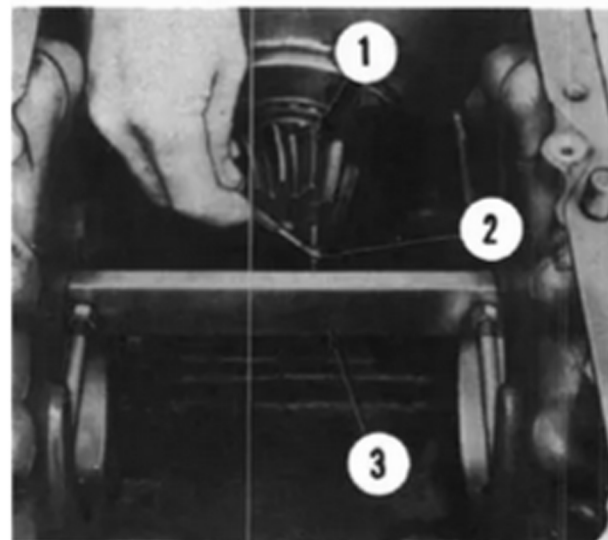

Fig. 98—Use IH Tool No. FES 143-2 and telescoping gage when checking bevel pinion shaft setting.
Using Fig. 91 or 97 as a guide, install countershaft and gears. On Models 684, 784 and 884, install reverse idler gear, thrust washers, bearings and shaft. Then, on all models, with bevel pinion shaft bearings installed adjust pinion position as follows: Install pinion shaft and bearing assembly without shims, brake drum or gears and tighten retaining bolts securely. Note the number etched on the pinion end of shaft. Install pinion gage bar tool IH No. FES 143-2 (3-Fig. 98). Using a telescoping gage (2), measure the distance between gage bar and pinion (1). The number etched on end of bevel pinion minus 2.500 inches is the specified distance at which the pinion should be set. The difference between the specified distance and the measured distance between gage bar and pinion is the correct amount of shim thickness to be installed. Shims are available in thicknesses of 0.004 and 0.007 inch.